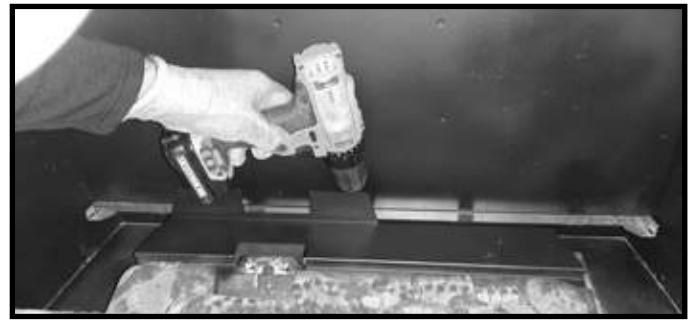
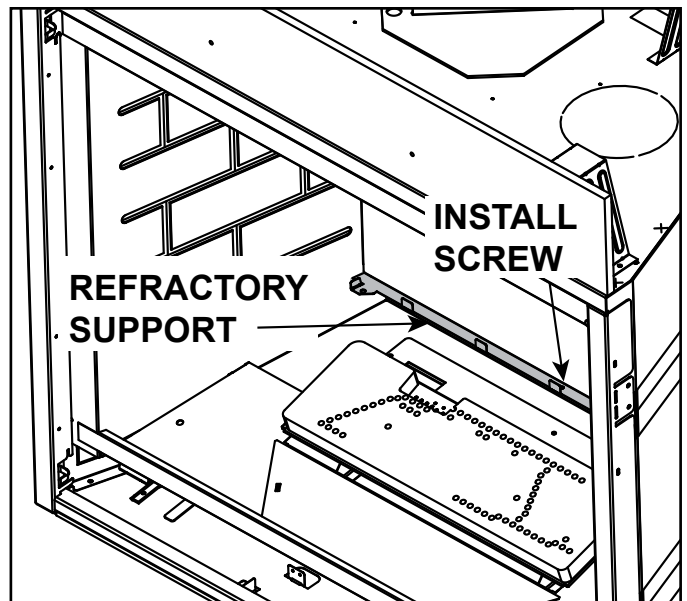

Figure 11.12 Install Back Refractory Support
Figure 11.13 Back Refractory Support Installed
3. Place back refractory support on back air passage return bend, align holes and install with one screw as shown in Figure 11.12 and Figure 11.13.